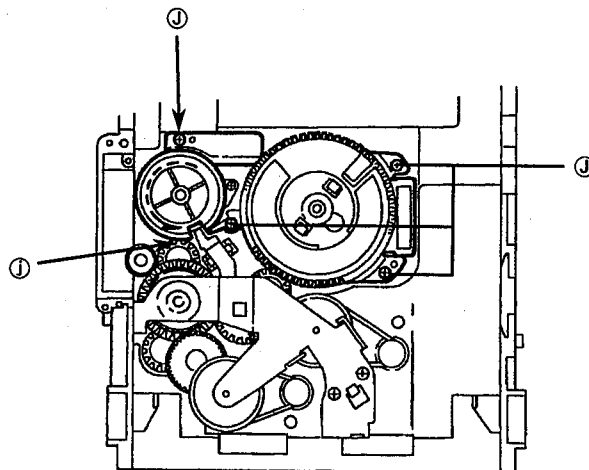

Fig. 43
4. Rotate the Cam gear L so that the select gear's ⑨ is positioned as shown in Fig. 43.
5. Remove 4 screws ④ securing the cam unit which includes the cam gear L and Cam R1, R2 ass'y. (See Fig. 43.)